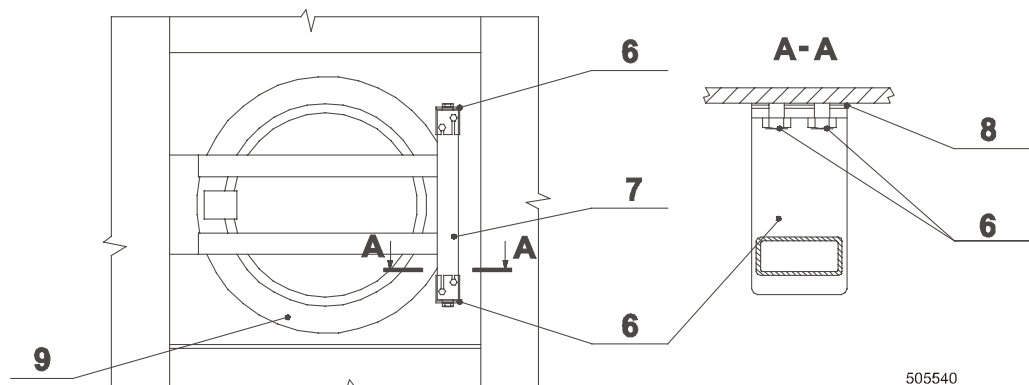

Fig. 5.2.B. Door fastening
1. Open the door. Remove the door glass (Fig. 5.2.A, pos.3) with rubber (pos.2) from the stainless steel door (pos.5) by pushing it towards the drum. Do it carefully, do not damage the glass.
2. Remove the seal (pos.4) from the glass.
4. Moisten the seal groove (pos.2) for door with soap water. Place a smooth cord in the groove all around. Tighten up the margin by cord and fit the unit to the door opening (pos.5) (with the clip up). Hold one end of the cord firmly on the door. Pull the other cord end towards the center of the glass for the rubber edge properly fit in.